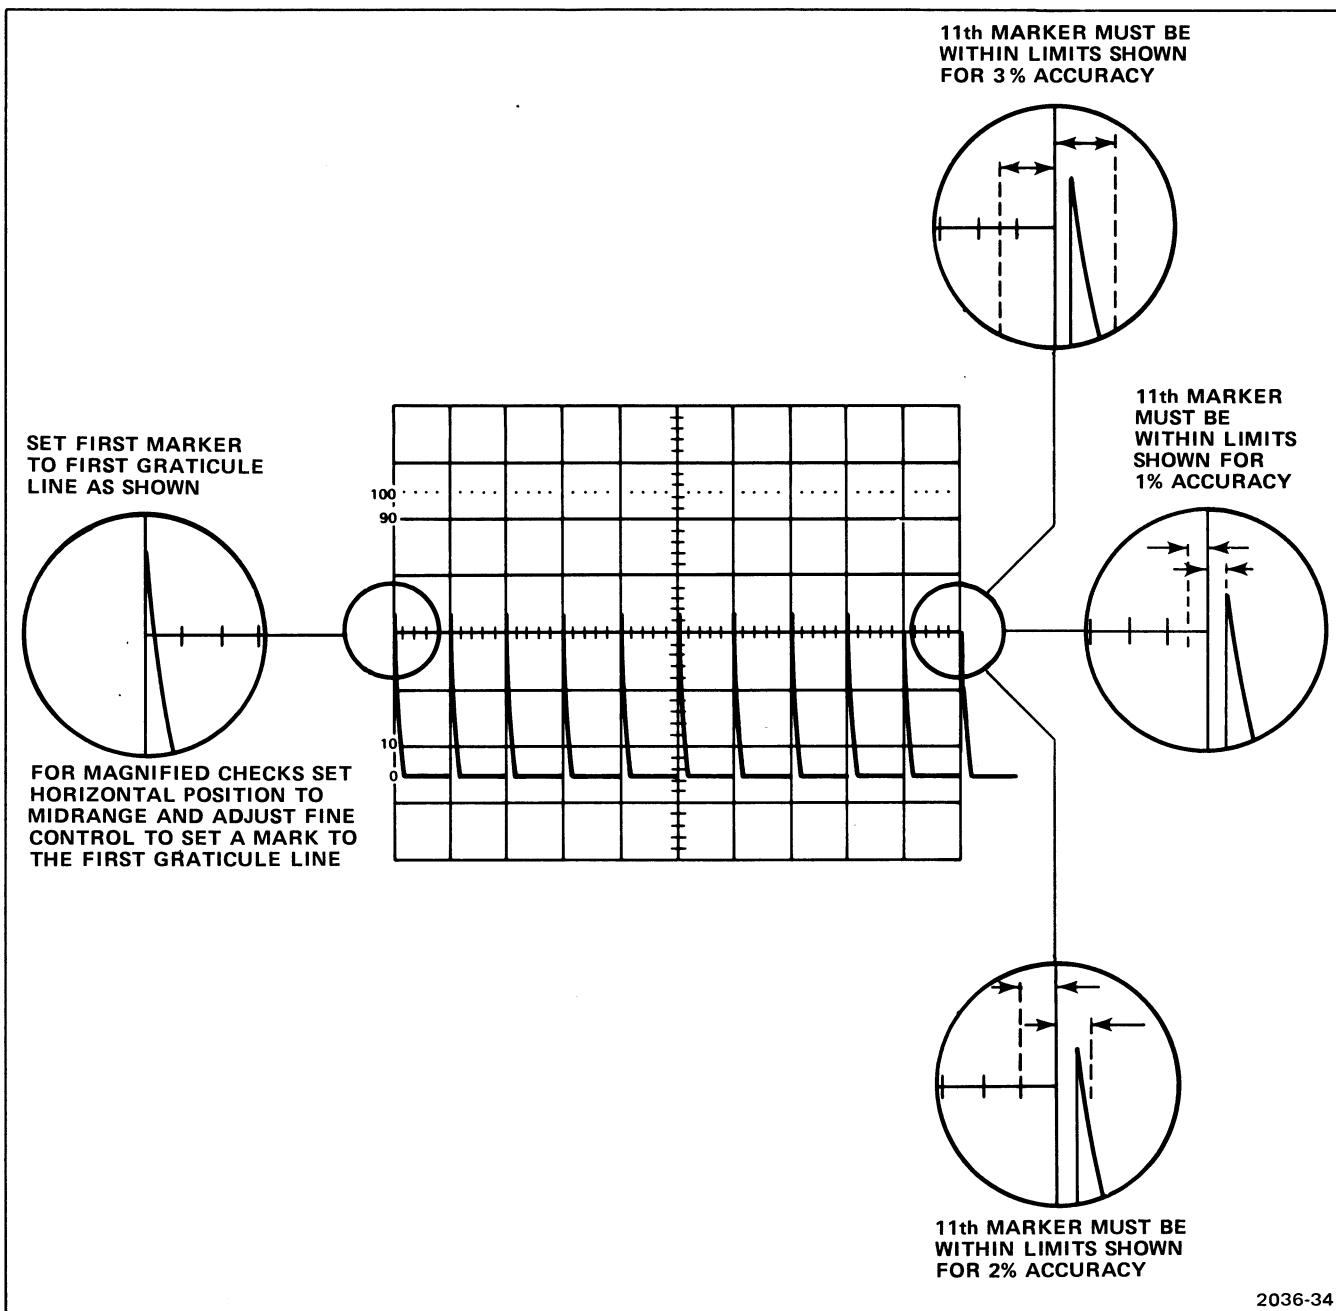

Fig. 6-7. Timing accuracies.
g. **CHECK**—The eleventh time marker is within 0.2 divisions (2%) of the eleventh vertical graticule line (see Figure 6-7).
m. **CHECK**—Eleventh time marker is within 0.2 division of the eleventh vertical graticule line (see Figure 6-7).
- j. Set first displayed time marker to first vertical graticule line (see Figure 6-7).
- k. **CHECK**—Eleventh time marker is within 0.2 division (2%) of the eleventh vertical graticule line (see Figure 6-7).
Unless otherwise stated, set POSITION and FINE (HORIZ) controls so the first time marker coincides with the first graticule line and check the error at the last graticule line (see Figure 6-7).
- b. **CHECK**—Timing accuracy is within 1% at TIME/DIV settings from .01 μ s to 5 ms (see Figure 6-7).
- c. **CHECK**—Timing accuracy is within 2% at TIME/DIV settings from .05 μ s to .5 s (see Figure 6-7).
- c. **CHECK**—Timing accuracy is within 3% at TIME/DIV settings from .05 μ s to .5 s (see Figure 6-7).